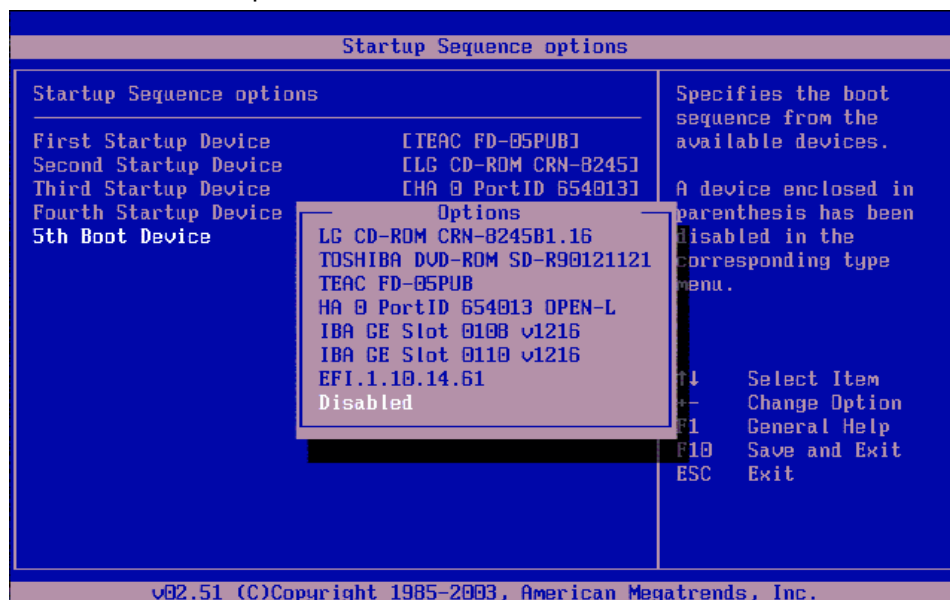

Figure 15 HS40 Boot Sequence
- Adjusting the boot sequence for HS40 blades is slightly different. Use the arrow keys to scroll to each startup device, then hit enter and select the appropriate value in the popup window as shown in Figure 15 HS40 Boot Sequence.